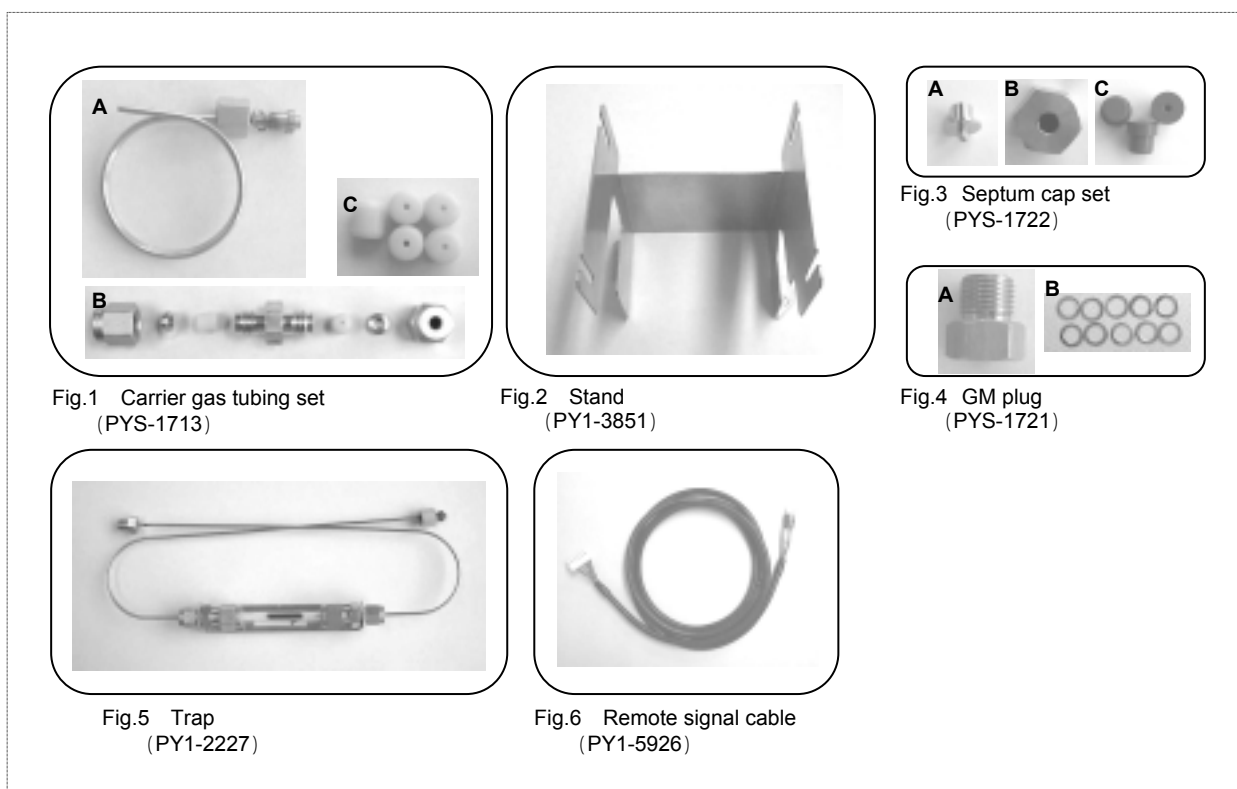
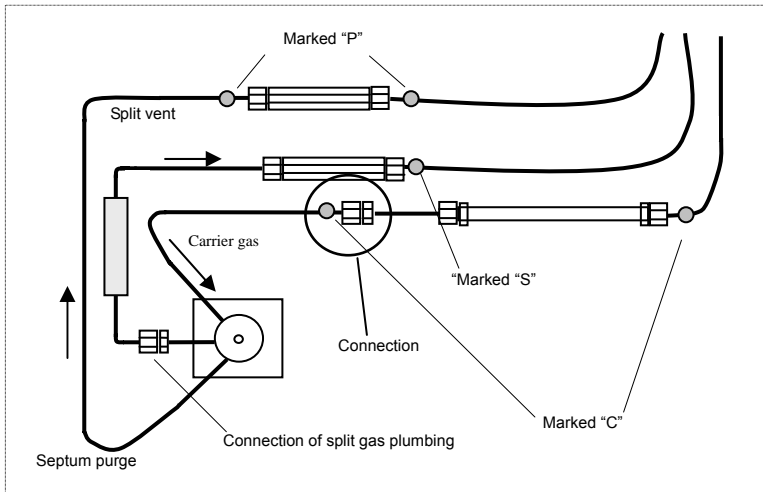

Fig. 3.2 Contents of Installation Kit for Shimadzu GC-2010
Fig.3.3 Before modification of carrier gas plumbing
The installation kit contains the following parts A~F (Fig. 3.2).
STEP 1 Installing adsorption trap (Figs. 3.3 and 3.4)
STEP 2 Modifying carrier gas flow path (Figs. 3.3 and 3.4)
1. Disconnect the carrier gas line at the connectors enclosed in circle in Fig. 3.3 (Indicated by "C") and attach Type G plug (cap nut) to the tube from the injection port, using 3 pieces of aluminum packing together (F (b) of Fig. 3.2).
2. Connect the stainless steel pipe contained in the carrier gas tube kit (F (a) in Fig. 3.2) to the carrier gas line just disconnected. Connect this stainless steel pipe to the carrier gas inlet of Pyrolyzer using a 1/8" union and a rubber stopper with a hole.